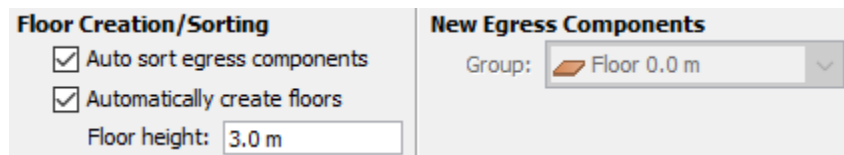

Figure 18. Floor Creation Panel
When nothing is selected in the model, the **Floor Creation** panel is shown, as in Figure 18. This panel controls the automatic creation of floors and automatic sorting of new objects into floors.
2. Clear the selection so that the **Floor Creation** panel is visible (Figure 18).